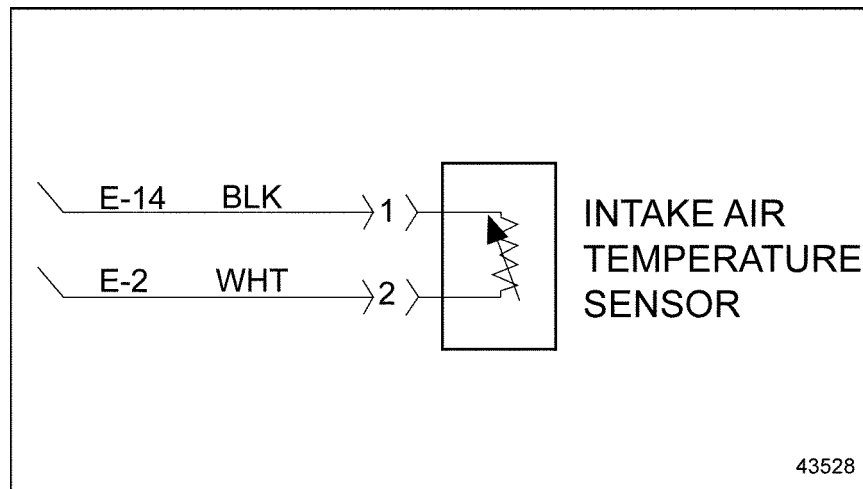

Figure 31-2 Intake Air Temperature Sensor
3. Install a jumper wire between sockets 1 and 2 of the ATS/IAT Sensor harness connector. See Figure 31-2.